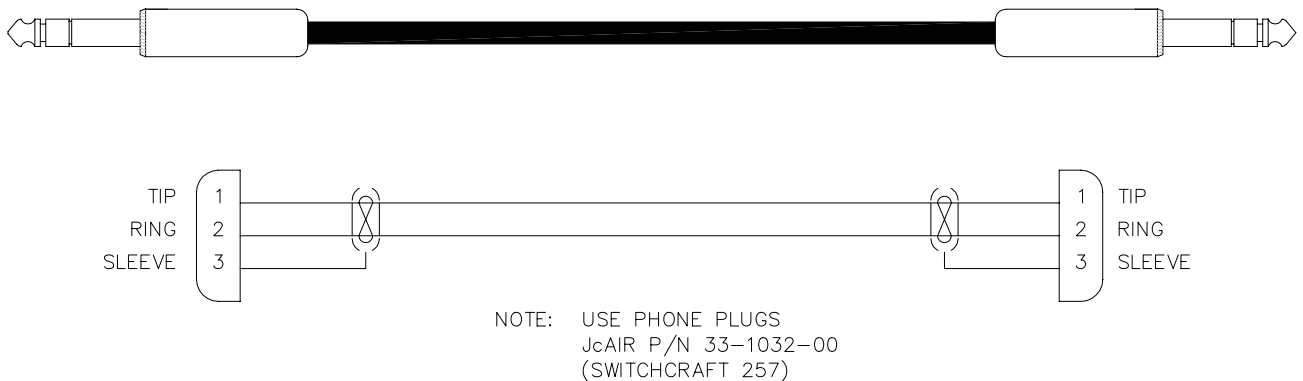

Figure 2-1. Phone Jack Jumper Plug
**Jumper plugs should be fabricated using 2-conductor braided shield cable. The shield should be folded back onto the insulation and the clamp on the connector should be crimped around the shielding. Also, once the shield is clamped, solder should be added to ensure a stable connection is made between the clamp and wire shield. Refer to figures 2-1 and 2-2.**